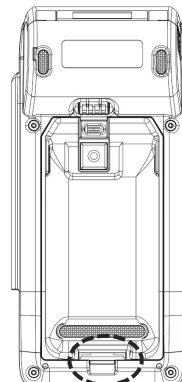

Figure 11
STEP 2: After install the battery and press the battery latch gently as Figure 11.